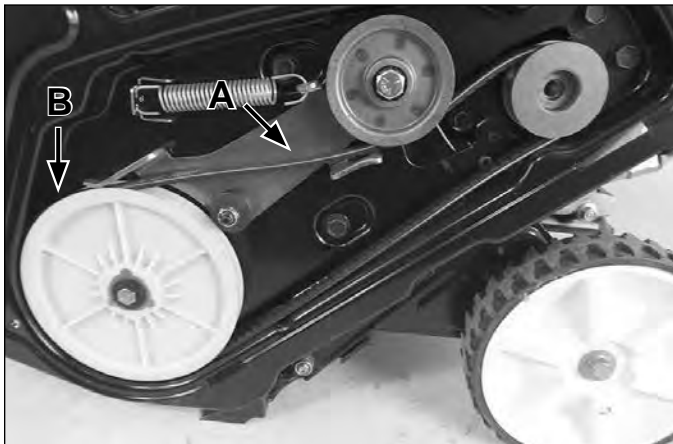

Fig. 015
1. Remove the belt cover. Remove the drive belt (A) and the rotor pulley (B) (Fig. 015).